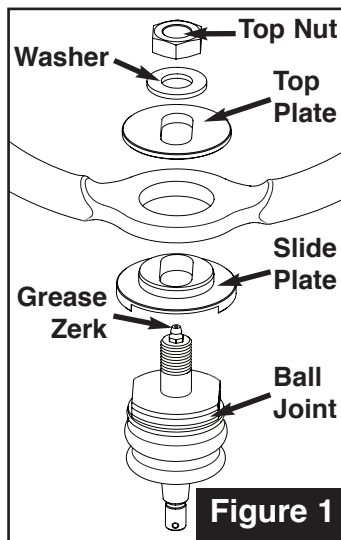

Figure 1
5. Position Slide Plate on underside of arm. Align slot in Slide Plate parallel to axle and press Slide Plate into arm using **SPC P/N 72509** or equivalent as shown in **Figure 1**.